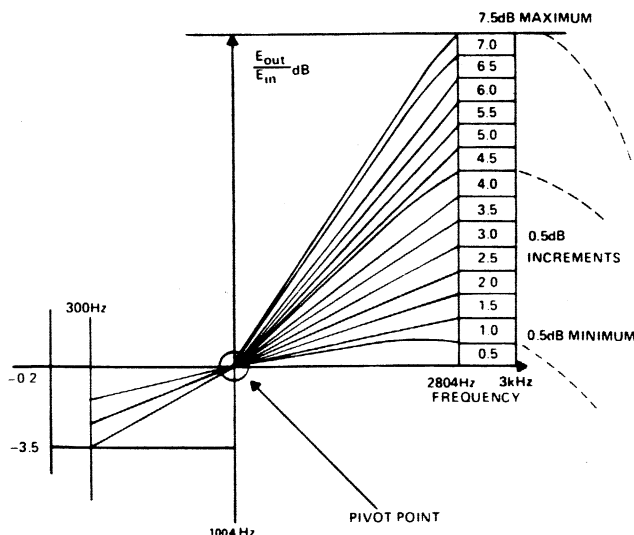

figure 2. Typical response curves for receive-channel active slope equalization
2.05 From 0 to 7.5dB of prescription-set active slope equalization at 2804Hz (re1004Hz) can be introduced into the 4024B's 4wire receive path to compensate for the frequency-response characteristics of nonloaded cable. This equalization is introduced in discrete 0.5dB increments via front-panel DIP switches. The module's equalized gain response is **not affected by flat gain or flat loss adjustments**, which are used to provide precise transmission alignment. Frequency response of the equalizer is shown graphically in figure 2 and in tabular form in table 1.